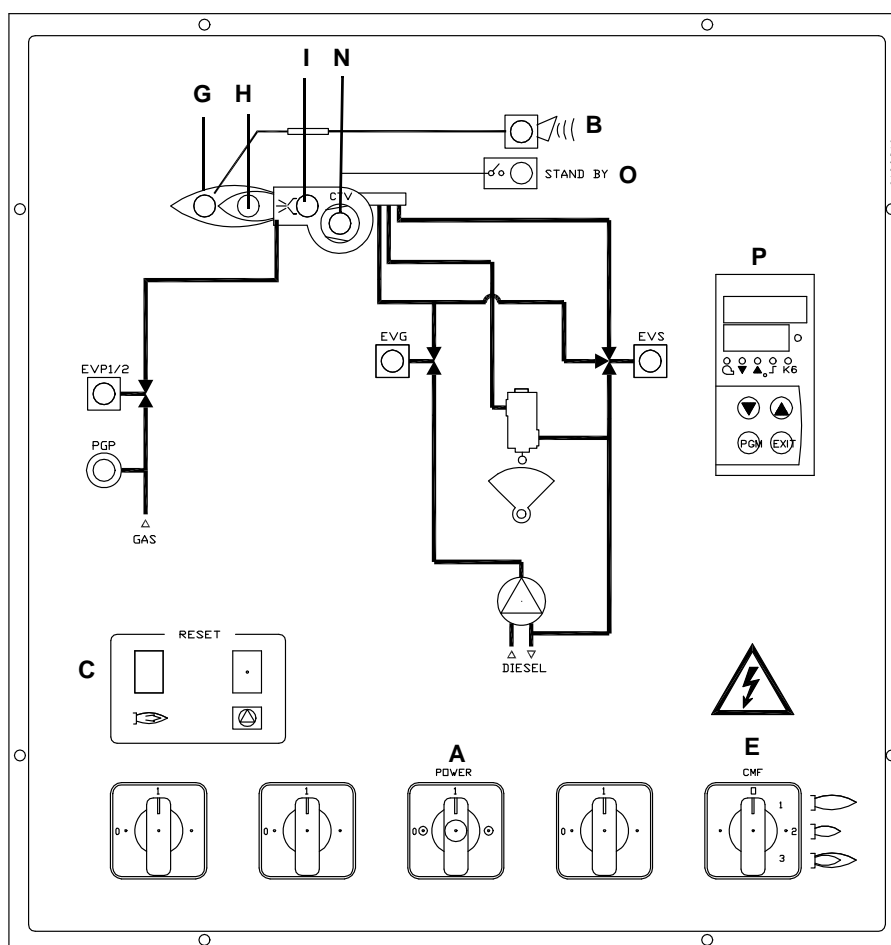

Fig. 19
- 9 the nozzle supply pressure is already factory-set and must not be changed. Only if necessary, adjust the supply pressure as follows (see related paragraph); insert a pressure gauge into the port shown on Fig. 19 and act on on the pump adjusting screw **VR** (see Fig. 18 and page 15) as to get the nozzle pressure at 25bar (see page 18).